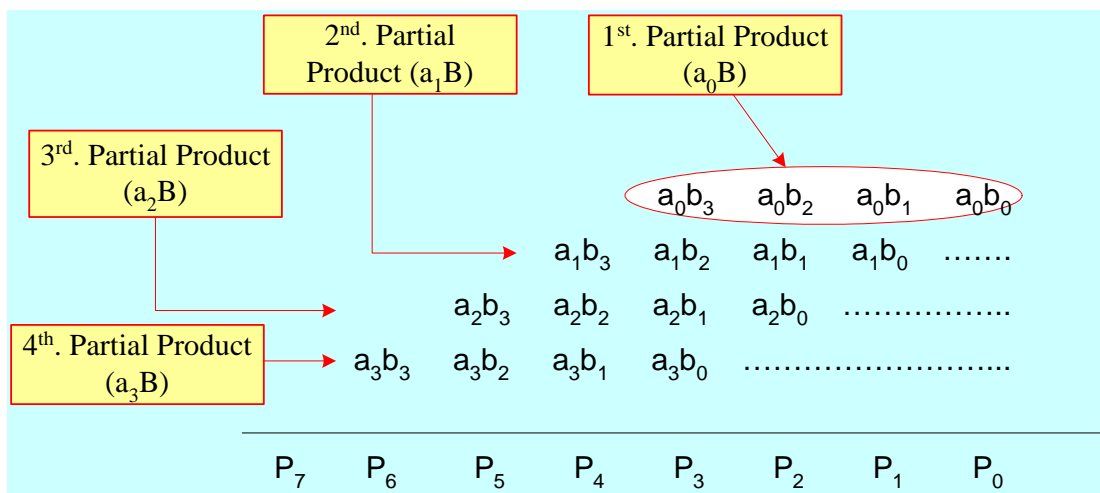

Figure 12.2: Binary Multiplication.
As in hand multiplication, we multiply the bits of the multiplier A ($a_3a_2a_1a_0$) by the multiplicand (B) starting from the LSB (a_0) to the MSB (a_3). This forms four partial products a_0B , a_1B , a_2B , and a_3B . The resulting partial products are added with each product shifted lefts by one bit position from its predecessor as shown in Figure 12.2.